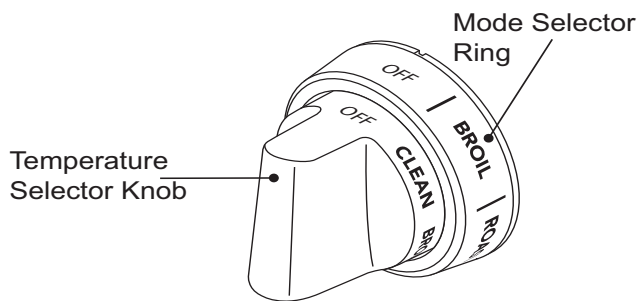

Figure 32: Mode Selector Ring & Temperature Knob
2. Set Mode Selector Ring (Figure 32) to Bake or Convection Bake, or Roast.